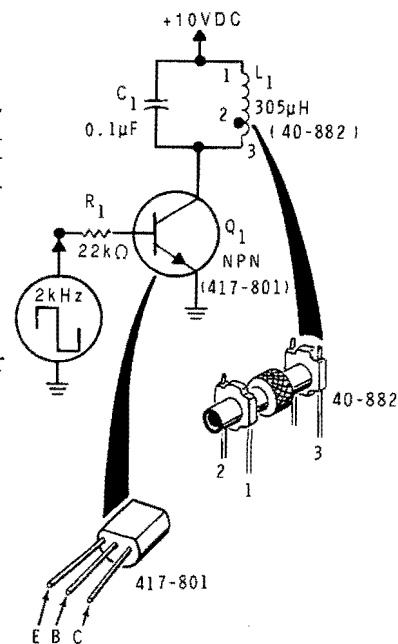

Figure 5-11
Use the values given in the schematic for this circuit (Figure 5-11) and compute the resonant frequency of the tank circuit you constructed.
2. Construct the circuit shown in Figure 5-11. Preset the generator frequency to 2 kHz. Preset the following controls on the oscilloscope: VOLTS/CM to 2 volts, TIME/CM to 20 microseconds. Connect channel 1 to the collector of the transistor.